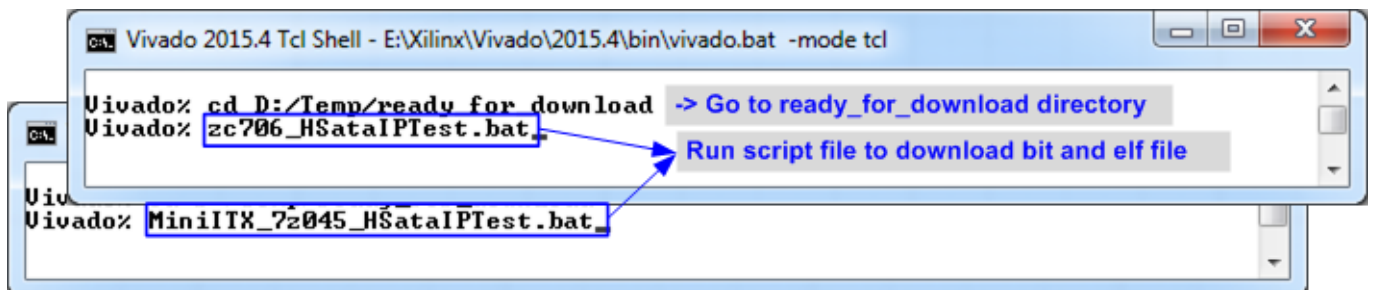

Figure 2-10 Command script for download demo file on Zynq device board
- 8) a) For Zynq device board (Zynq Mini-ITX/ZC706/ZCU102), open Vivado TCL shell. Change current directory to ready_for_download. Next, run BoardName_HSataIPTest.bat (zc706_HSataIPTest.bat, zcu102_HSataIPTest.bat, MiniITX_7z045_HSataIPTest.bat), as shown in Figure 2-10